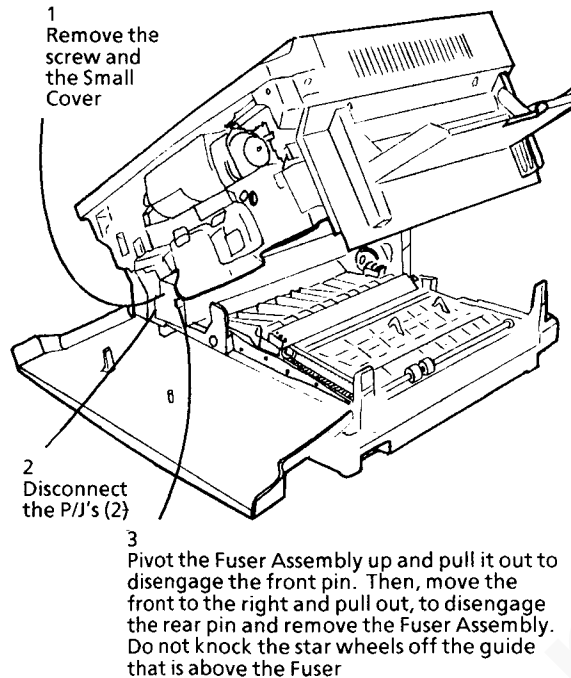

Figure 1. Removing the Fuser Assembly
2. Remove the Fuser Assembly (Figure 1).